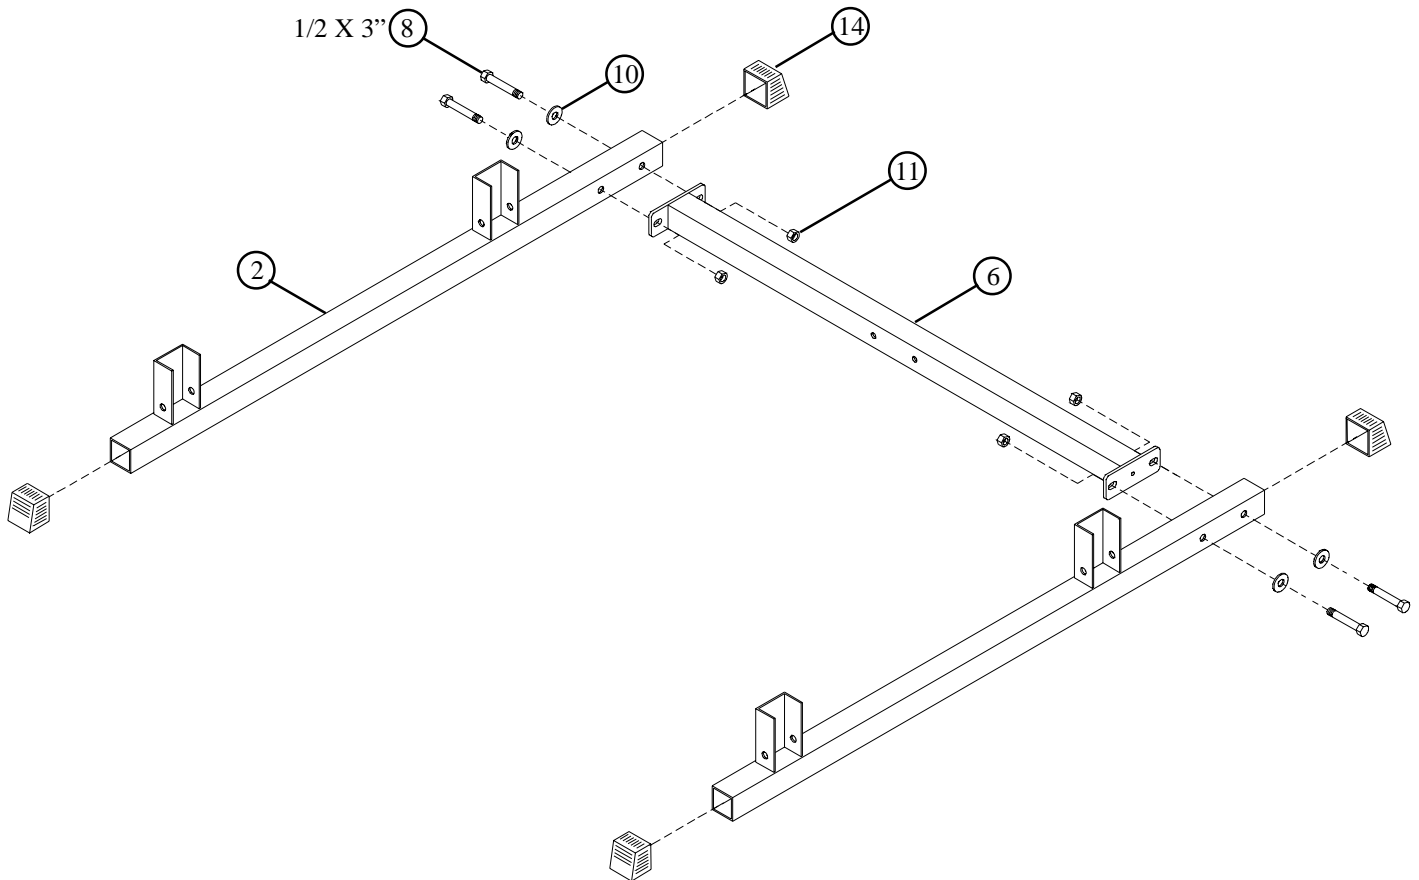

FIGURE 1
- Slide four 2" SQ. COVER CAPS (14) over the ends of each UPRIGHT BASE (2) as shown in FIGURE 1.
- **LOOSELY** assemble the LOWER CONNECTOR (6) between each UPRIGHT BASE (2) using four 1/2 X 3" BOLTS (8), four 1/2" WASHERS (10), and four 1/2" LOCK NUTS (11). See FIGURE 1.